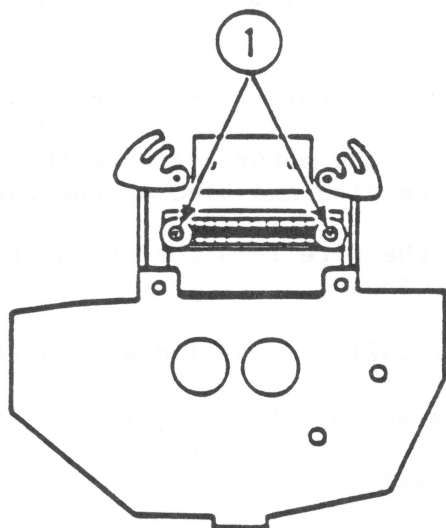

FIGURE 13
19. Replace the dot head connector. (See Figure 13, #1.)